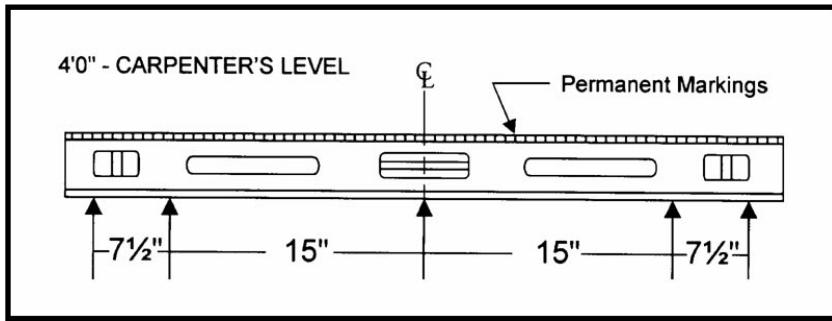

Figure 9 Carpenter Level Template
4) Prepare a 4 foot (1219 mm) carpenter's level as a "template" to mark the location of the rail bracket holes. Use a small tip permanent ink marker for this purpose. On the carpenter's level mark the centerline and the position of each bracket hole to be drilled in the wall. Refer to Figure 9.